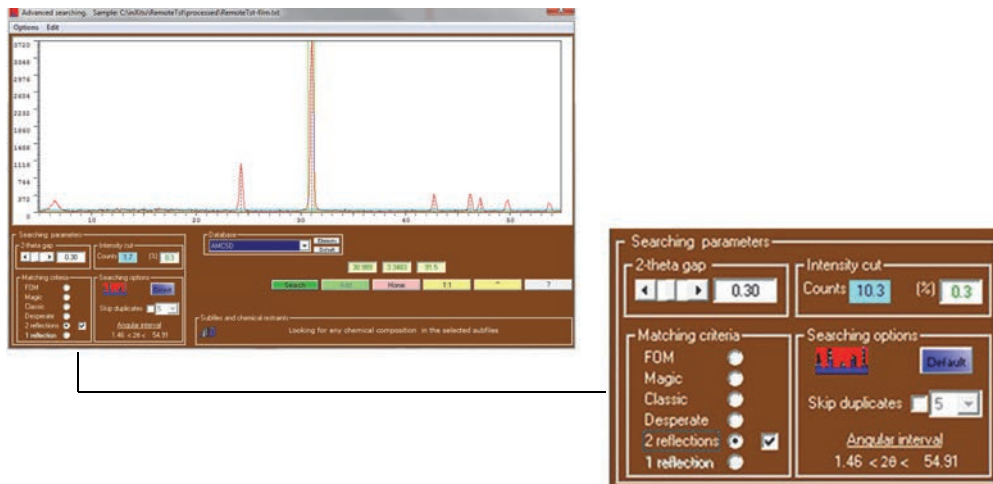

Figure C-7 Advanced searching — Searching parameters area
- In the **Searching parameters** area, set the **2-theta gap** to **0.30** (see Figure C-7 on page 93).
| Figure C-7 | Advanced searching — Searching parameters area | 93 |